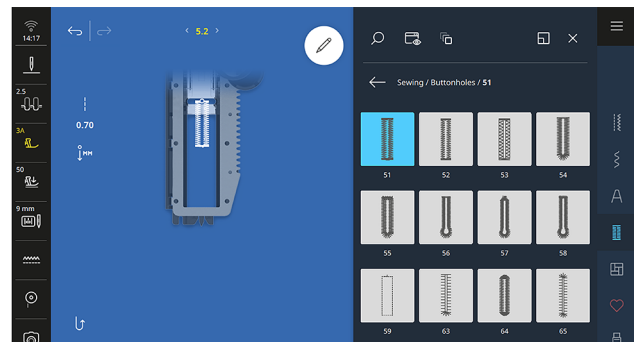

Fig. 32
4. Next, select Medium-weight Woven and confirm the settings. It will take you straight to your sewing screen with those settings applied (Fig. 32).